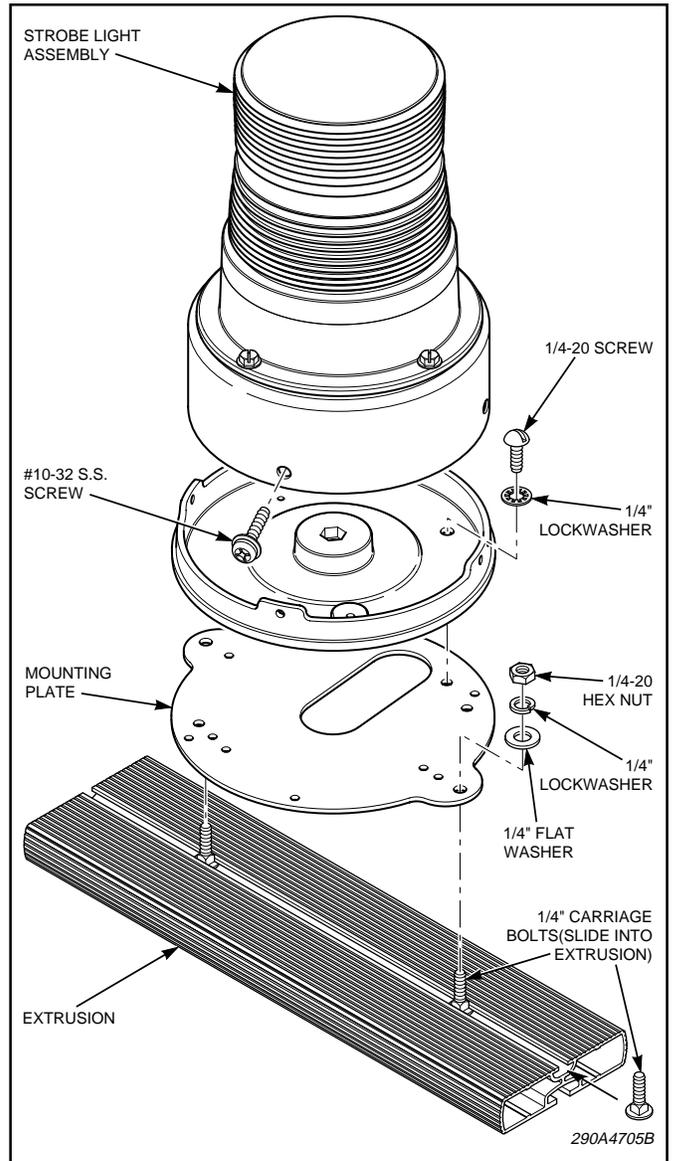

Figure 3.
D. Models with separate flush mount kits require that the flush mount kit is mounted to the mounting plate before the flush mount kit is attached to the beacon (see figure 3).